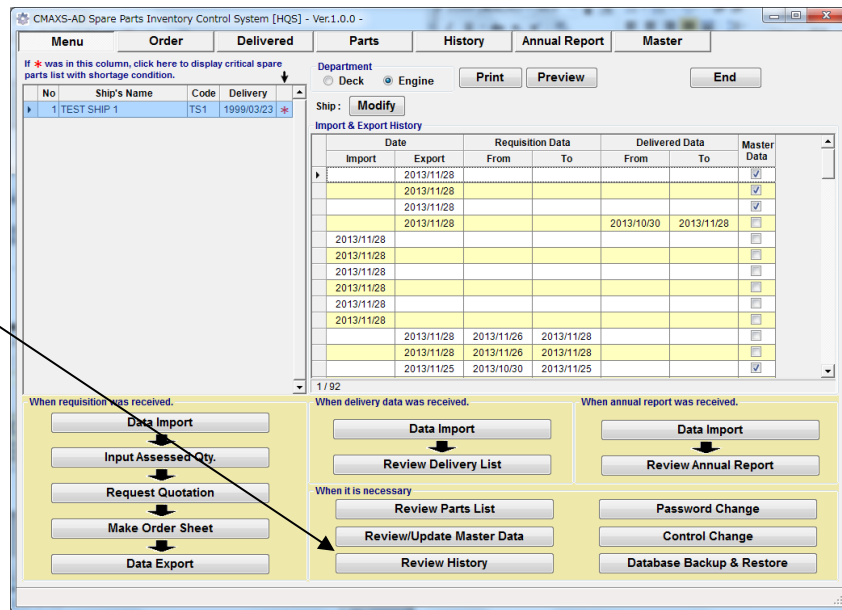

Fig.10-1 Menu Screen
(1) On the "Menu Screen"(Fig.10-1), select [Review History].